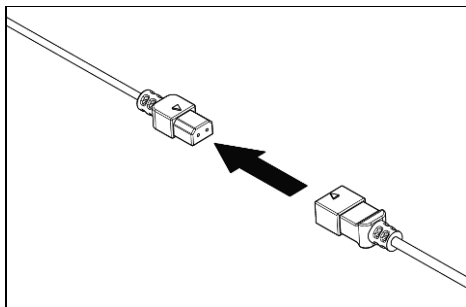

Fig. 4
- Connect the microphone with the counterpart on the wiring (Fig. 4).